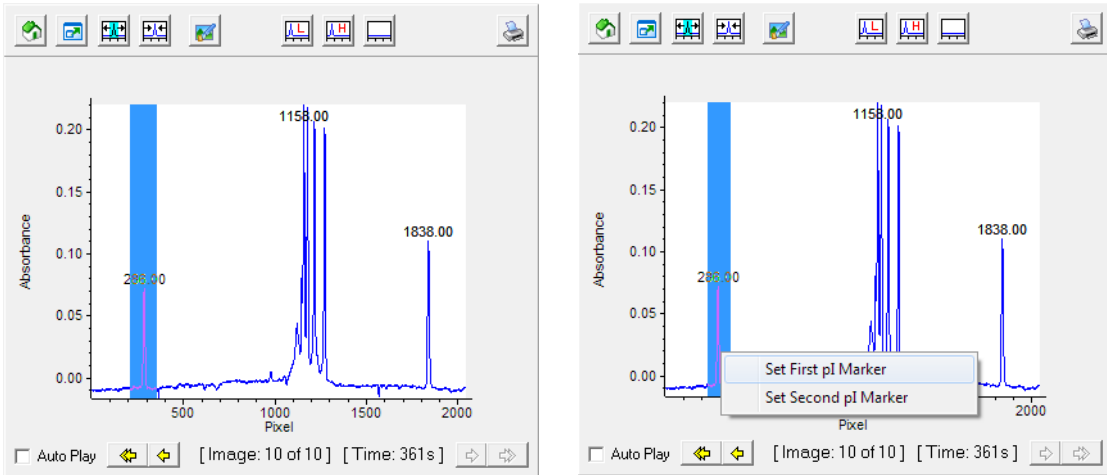

Figure 7-10: Selecting the lower pI marker peak (left) and setting as the first pI marker (right).
1. Set the low pI marker. Click in the electropherogram and drag the mouse over the low pI marker peak (typically the first peak) as shown in Figure 7-10 (left). If there are multiple peaks at the beginning of the data, the low pI marker will be the largest peak.
2. Click the **Set low pI** icon or right click and select **Set First pI Marker** (Figure 7-10, right).